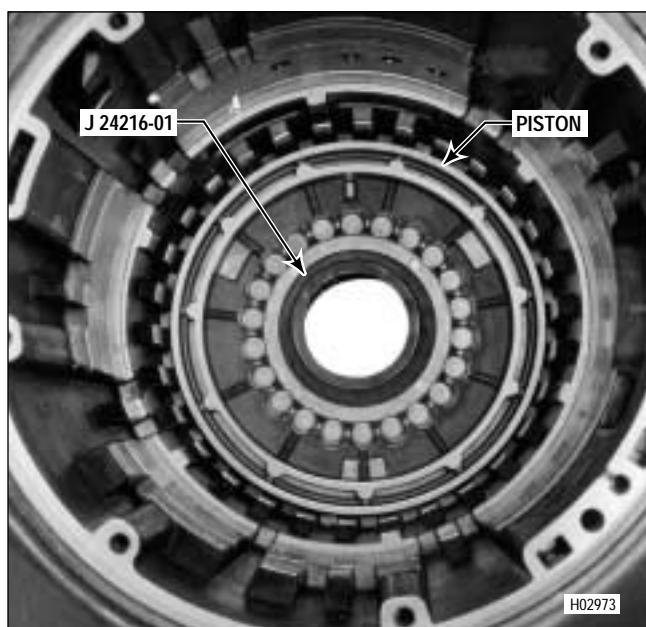

Figure 7-1. Installing First Clutch Piston
(1) Place the transmission housing assembly into the holding fixture, converter housing upward.
(2) Place inner seal protector tool J 24216-01 over the hub in the transmission housing (Figure 7-1).
(3) Install the inner and outer lip-type sealings into the grooves in the first clutch piston. A color-coded, outer lip-type sealring (blue) is used on the piston after S/N 3210201937. The lips of both sealings must face toward the rear of the transmission when the piston is installed. (Refer to sealring cross-sections on Foldout 10,B.) Lightly lubricate the surface of the piston bore and protector J 24216-01 with transmission fluid before installation.
(4) Install the piston and sealings into the transmission housing rear bore, engaging the piston tang into the slot in the housing (Figure 7-1). Be sure the lip of the sealring on the outside diameter of the piston is not distorted. Remove the protector tool.